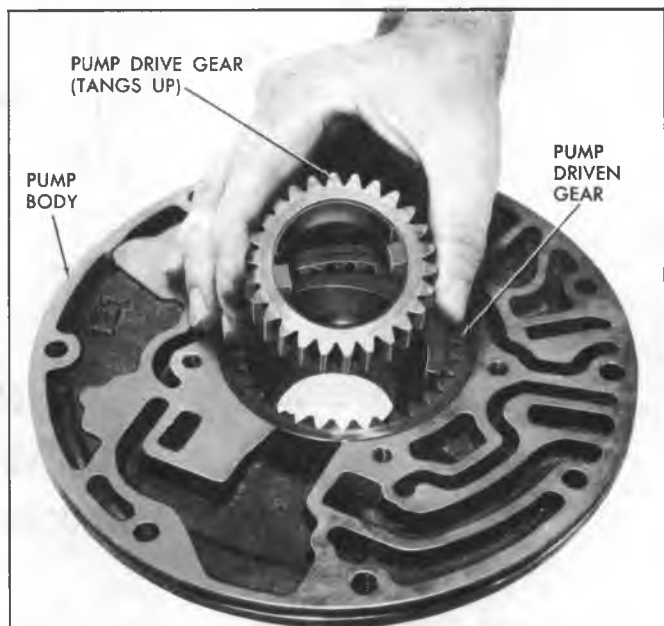

Fig. 63T--Installing Pump Drive Gear
11. Mark drive and driven gears for reassembly in same position and remove from the pump body. See figure 63T.
1. Install drive and driven pump gears with alignment marks up into pump body (fig. 63T) drive gear tangs up.